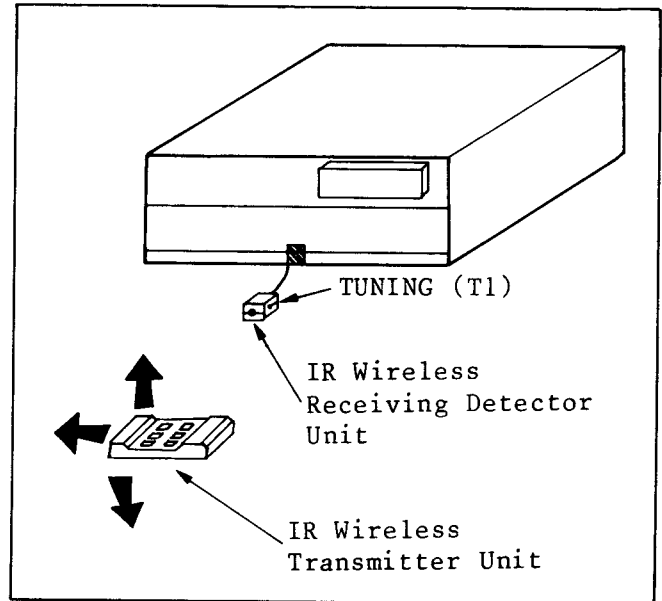

Fig. E47
3. Place the IR Wireless Transmitter Unit and the Unit as shown in Fig. E47.